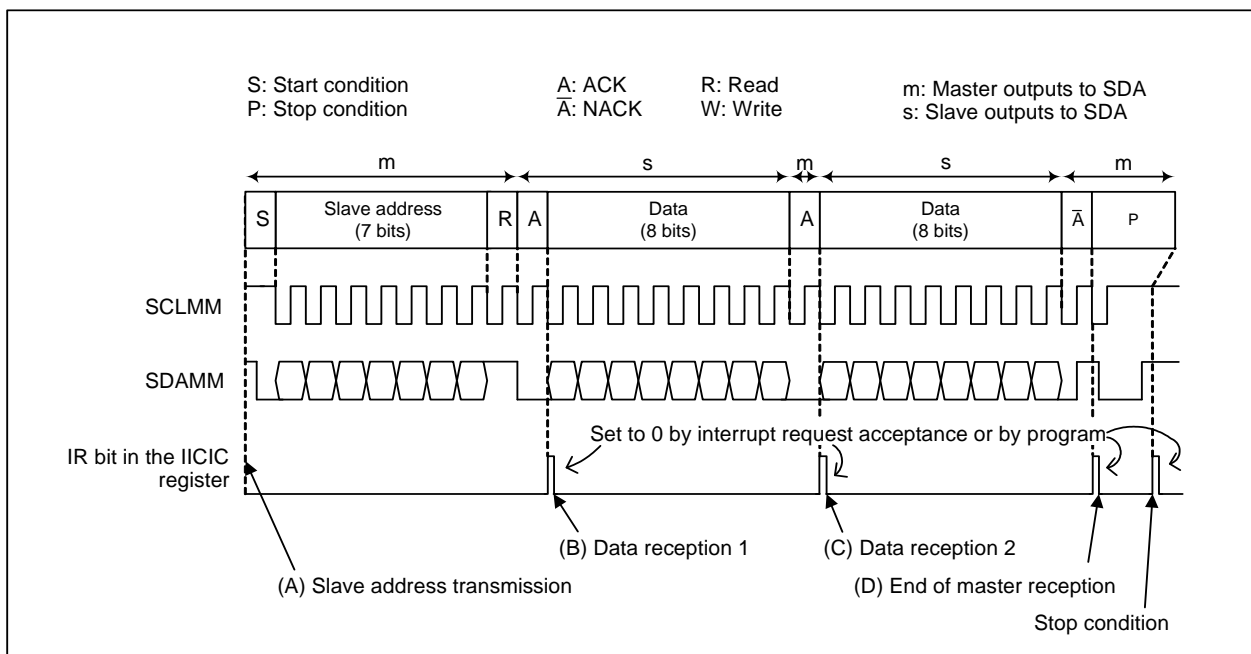

Figure 25.18 Example of Master Reception
The master reception is described in this section. The initial settings described in 25.3.10.1 “Initial Setting” are assumed to be completed. Figure 25.18 shows the operation example of master reception. The following programs (A) to (D) are executed at the (A) to (D) in Figure 25.18, respectively.